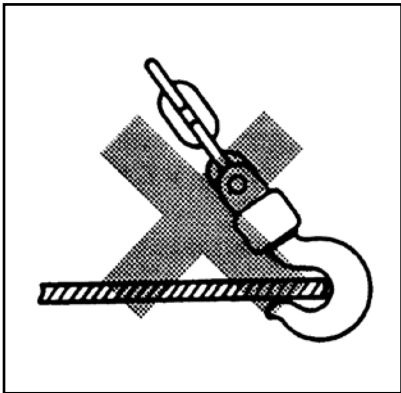
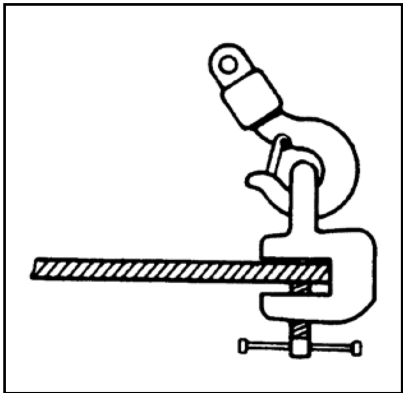

FIGURE 3
FIGURE 4
- When hooking, the load must be applied squarely to the centre of the hook and the hook must not come loose during operation. Never use the hook directly on a load (See Figure 3). Lift loads only with applicable clamps or hooks (See Figure 4).